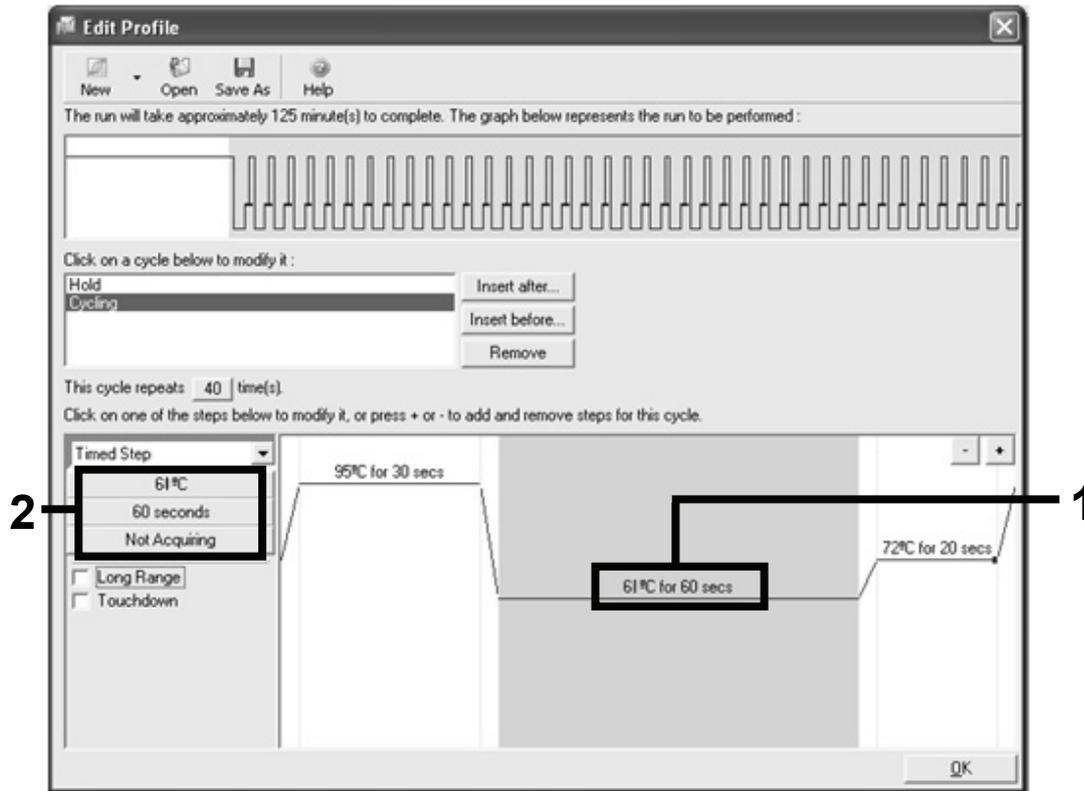

Figure 7. Cycling step at 61°C.
14. Highlight the second step, and set to 61°C for 60 seconds. Enable data acquisition during this step by selecting the “Not Acquiring” button (Figure 7).